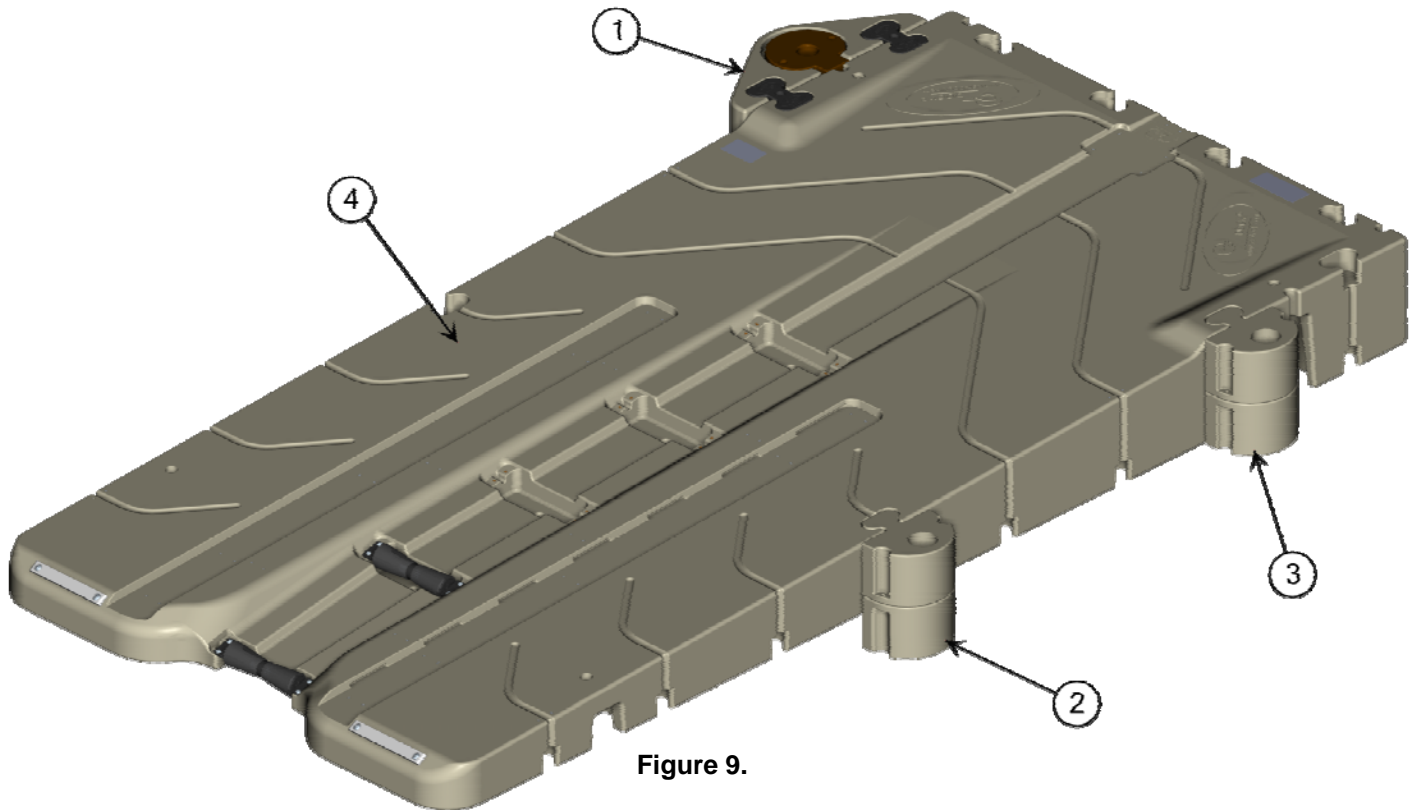

Figure 9.
1. Four (4) pipe brackets are to be used if the EZ BoatPort (Item 4) is freestanding.
2. Two (2) of the pipe brackets must be the offset pipe brackets (Item 2). **NOTE:** The offset pipe bracket can only be used in the EZ BoatPort coupler pocket as shown in Figure 9.
3. The other two (2) pipe brackets can be a set of standard duty pipe brackets (2-1/2" or 3-1/2" OD) (Item 3) or a set of heavy duty pipe brackets (2-1/2" or 3-1/2" OD) (Item 1). This set of pipe brackets can be used on any of the eight (8) front coupler pockets, preferably spaced out as much as possible while remaining symmetric to prevent binding.